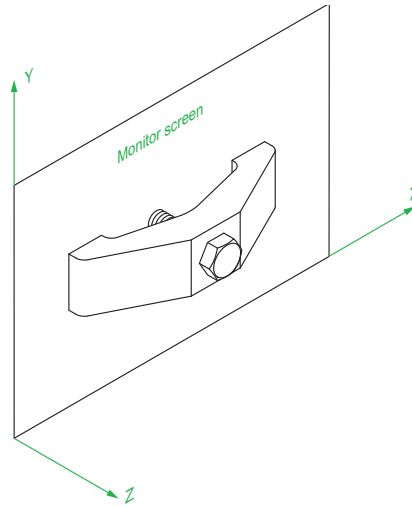

Fig. 1.21 A 3D model drawing showing the X, Y and Z coordinate directions
3D coordinates include a third coordinate (Z), in which positive Z units are towards the operator as if coming out of the monitor screen and negative Z units going away from the operator as if towards the interior of the screen. 3D coordinates are stated in terms of x,y,z . $x,y,z = 100,50,50$ is 100 units to the right of the origin, 50 units above the origin and 50 units towards the operator. A 3D model drawing as if resting on the surface of a monitor is shown in Fig. 1.21.